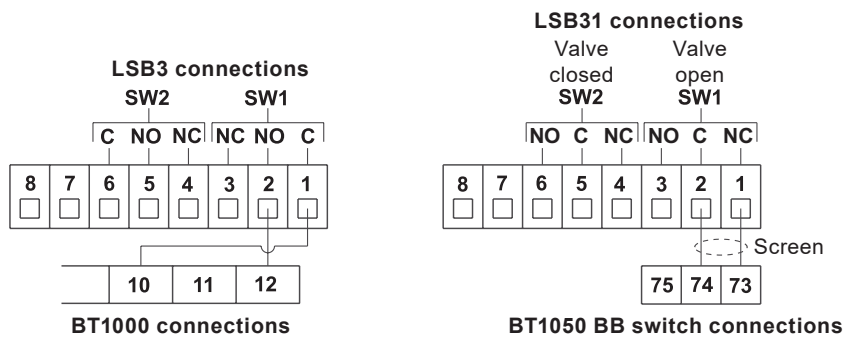

**Fig. 3 BVA actuator showing inlet and exhaust ports**
- Fit the screwed location pin from the MV kit in the top centre position above the actuator ports (see Figure 3). Ensure the pin is screwed far enough into the actuator to allow a good seal to be made i.e. that it is not holding the solenoid away from the actuator.